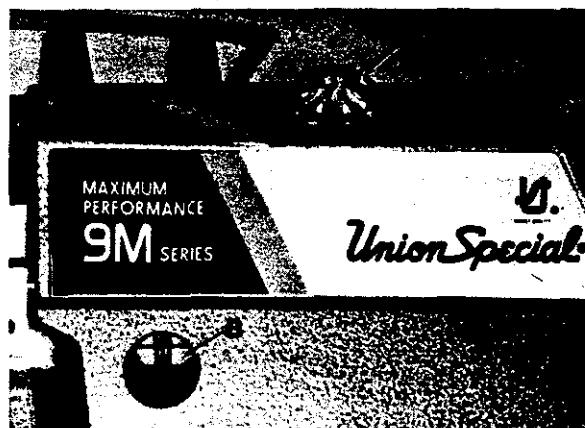

Fig. 1
Use a straight mineral oil with a Saybolt viscosity of 90 to 125 seconds at 100 degrees F. This is equivalent to UNION SPECIAL Specification No. 175. Remove oil filler cap (A, Fig. 1), add oil until indicator is level with top line of sight gauge (B). Replace oil filler cap and run machine 30 - 40 seconds at half speed to fill the system. Check sight gauge and add oil as required until the indicator registers half way between the two lines of sight gauge (B). Approximately 14 to 16 ounces (354.9 to 414.0ml) is required to fill the system.